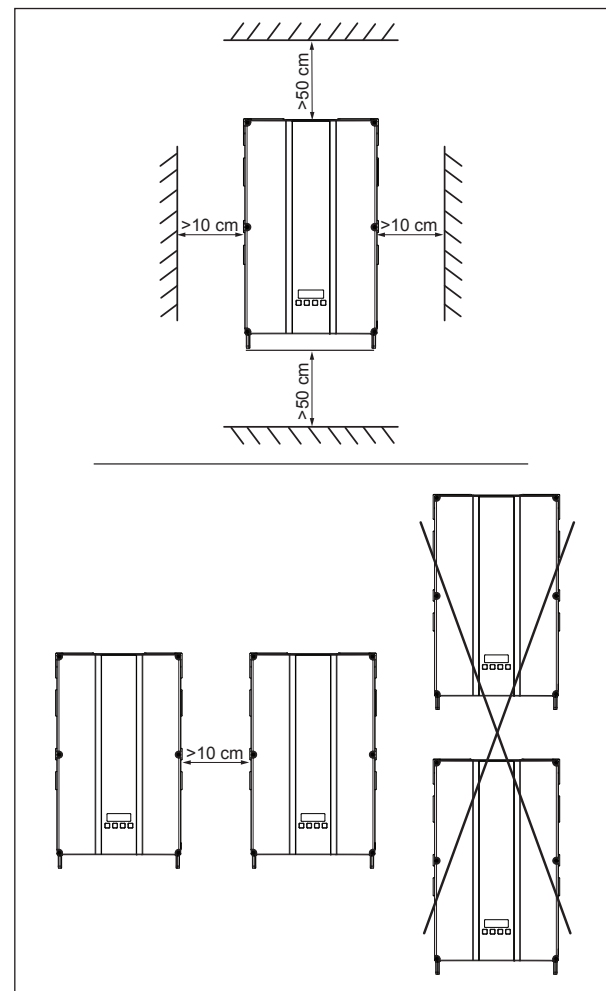

Fig. 7.2.: Mounting clearances for correct convection
- Be sure to conform to the specified minimum clearances to walls and other solar power inverters when installing the device (see Fig. 7.2.).